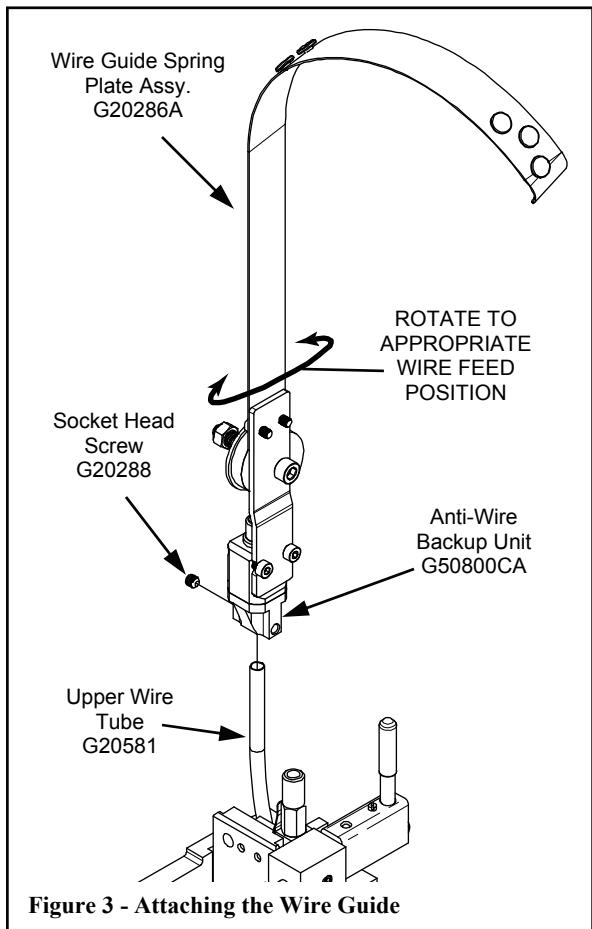

Figure 3 - Attaching the Wire Guide
- Attach Wire Guide Spring Assembly to the G20 Head and secure with Socket Head Screw. (See Figure 3)
- Loosen set screw and rotate Wire Guide Spring Assembly to an appropriate position and retighten screw. (Figure 3)